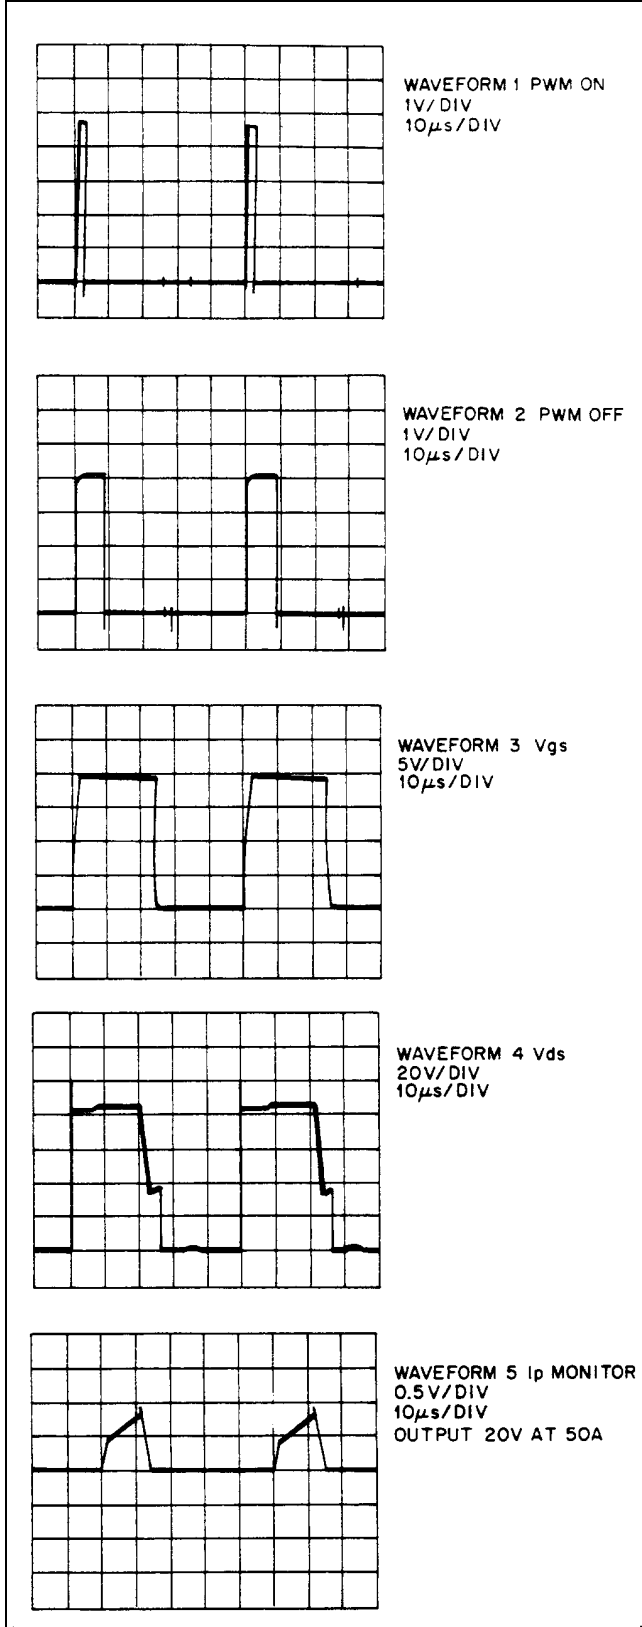

Figure 3-3. Waveforms
**Setup.** The Main Troubleshooting Setup, page 33. Apply the ac mains voltage to the isolation transformer, and set the external supply to 40Vdc. Set the unit's output voltage to 20Vdc and current to above 1Adc using "DISPLAY SETTINGS" switch. Verify that the UNREGULATED LED lights. See Figure 3-3 for waveforms.